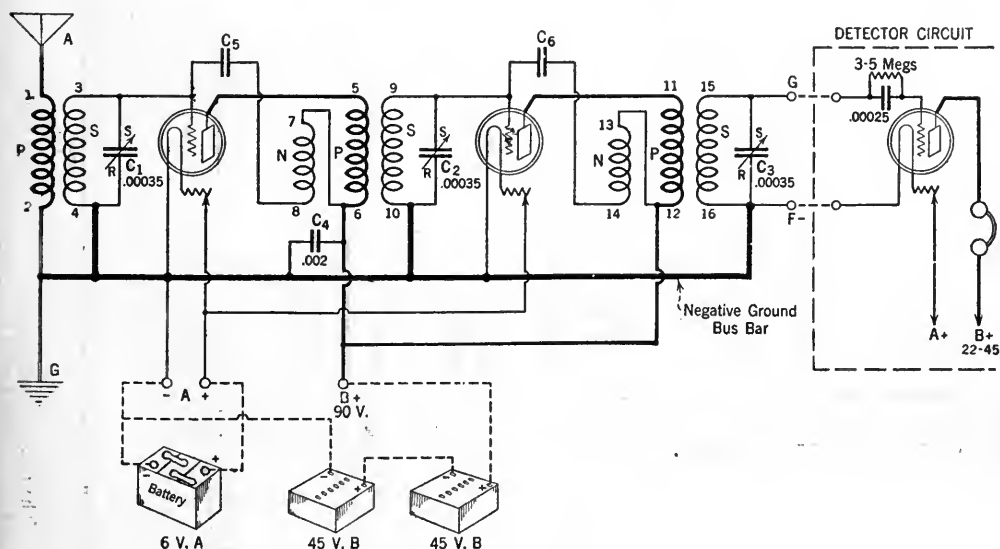

FIG. 5
Engineers have made electrostatic coupling a special study. Full reports of their findings are not yet available. However, the few bare facts such as separation of parts, concentration of coil winding, and simplicity of wiring serve to guide us toward correct constructional design. The circuit of the radio-frequency amplifier described here is shown in Fig. 5. This amplifier may be used with any type of detector and audio-frequency amplifier now available. In a future number of RADIO BROADCAST we shall describe a detector and
double-wound primary, constituting the N-P coils, and a secondary (S), as illustrated in Fig. 5.
All connections should be soldered. Lugs may be used at socket and condenser terminals to facilitate the soldering job and this also permits the terminal nuts to be tightly fastened down on the lugs before the soldering is begun. Suitable wrenches for this work are now on the market. The wiring plan is shown in Fig. 11. The schematic circuit diagram is Fig. 5.